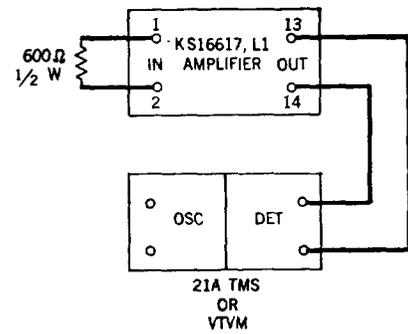

Fig. 2 - Test Setup for Measuring Noise of High-Level Channel
5.02 The noise test on the high-level channel should be made in accordance with the test setup shown in Fig. 2. A DET (TMS) or a VTVM is used to measure the unweighted noise instead of the 2B or 3A Noise Measuring Set for the sake of convenience. The readings are arbitrary readings and are not true noise levels since these test sets are not direct replacements for a noise measuring set. Chart II outlines the step procedure for making the test.